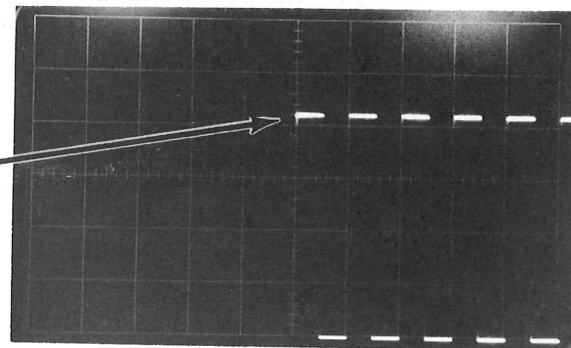

Figure 6
3. Set the MAGNIFIER knob to 1 msec/cm (X1) and adjust MAG. REGIS. (R322 - see Figure 6) so the first pulse is again positioned to the center of the screen. See Figure 6.